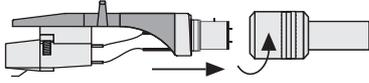

Fig. 4 Mounting the headshell
1. Take the headshell out of one of the two lateral polystyrene wrappings, place it onto the front end of the tone arm, and secure it with the locking nut (Fig. 4).